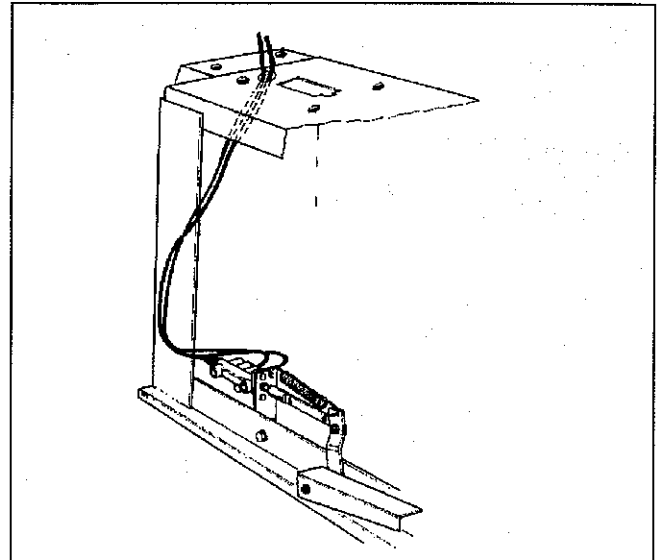

Fig.8
H. Attach the air hoses of the column to the foot controlled inflation valve as shown in Fig.8.